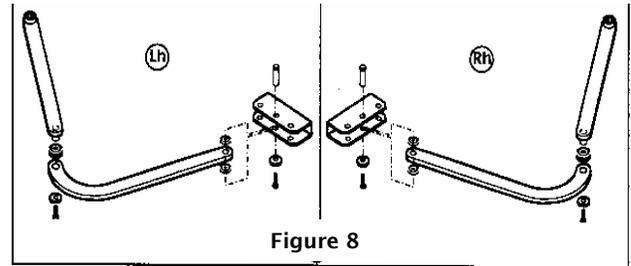

Figure 8
- * Assemble the articulated arm and front mounting bracket as shown in figure 8.
Figure 8 shows how to assemble the articulated arm and front bracket.